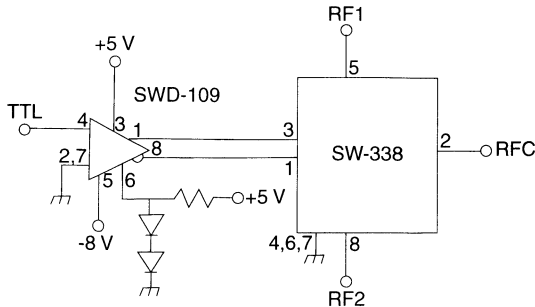

Figure 2. SWD-109 Single-Channel Driver and SW-338 GaAs MMIC Switch
- 2) V_{OPT} of 1.4 V can be derived from a circuit consisting of a resistor from the +5 volt supply to a pair of diodes mounted to ground (see Fig. 2).